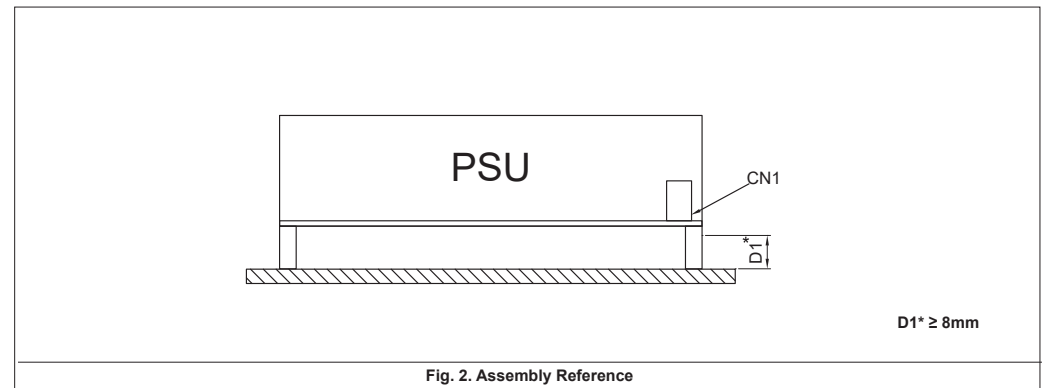

Fig. 2. Assembly Reference
- Please insert an insulation sheet between the system and product, if the safety distance is < 8mm for D1 (Refer to Fig. 2)
- For (A), (D) orientations, ensure sufficient convection cooling, always maintain a distance of ≥ 30mm for D2 below the device while the device is in operation.